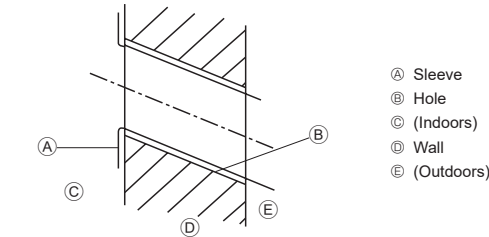

Fig. 3-3
- ② Indoor unit
- ③ Bottom left rear pipe hole (ø75 mm, 2-61/64 inch)
- ④ Bottom right rear pipe hole (ø75 mm, 2-61/64 inch)
- ⑤ Bottom right rear condit cable hole (ø75 mm, 2-61/64 inch)
- ⑥ Knockout hole for left rear hole (105 × 300 mm, 3-15/16 × 11-13/16 inch)
- ⑦ Bolt hole (4-ø9 mm, 23/64 inch hole)
- ⑧ Tapping hole (6-ø4.3 mm, 11/64 inch hole)
- ⑨ Hole centre
- ⑩ Align the scale with the line.
- ⑪ Insert scale.
3.2.2. Drilling the piping hole (Fig. 3-3)